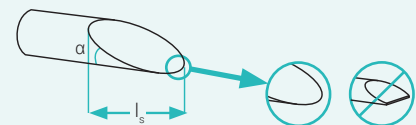

figure 3
- Unwind around 0,5m of the sealing tape and cut the end with a sharp knife by using the skive cut technique → length of the skive cut (l_s) = approx. 15 - 20 mm with an angle α approx. 30° (figure 3).